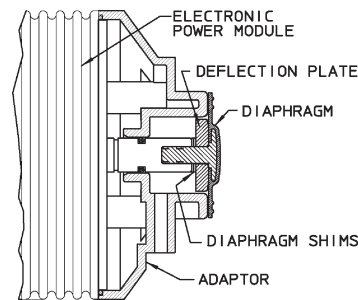

FIGURE 13
- Slide the diaphragm deflection plate onto the back of the diaphragm stud, radius side towards the diaphragm. Next slide two shims onto the diaphragm threaded stud and screw the diaphragm into the EPM unit. Refer to Figure 13. Turn diaphragm clockwise until deflection plate and shims are tight against solenoid shaft and the diaphragm stops turning. If there is a gap between the adaptor and diaphragm, repeat the procedure removing one shim each time until the diaphragm just touches the adaptor or is slightly recessed.